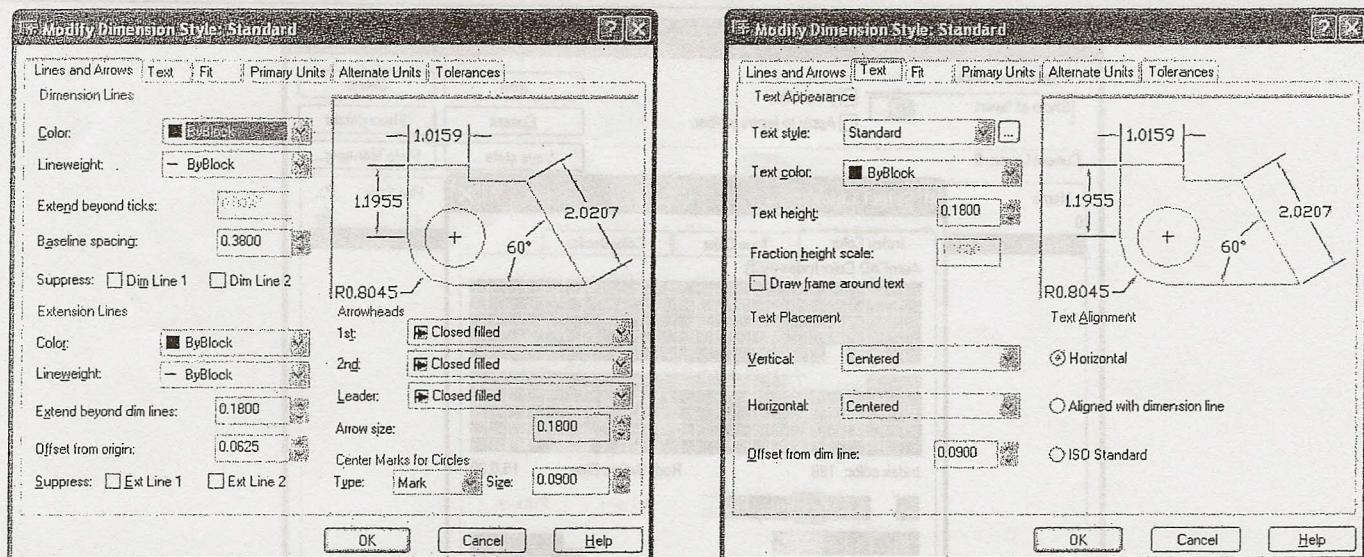

Figure 3a/b Lines and Arrows tab and Text tab of the Dimension Style Manager
- A. Click the Lines and Arrows Tab, under Arrowheads, set Arrow Size: 0.180, and under Extension Lines, set Extend beyond dim lines: 0.180 (Figure 3a).